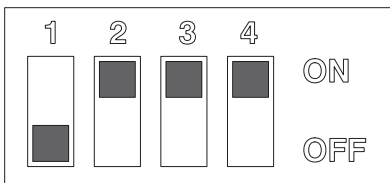

Figure 4-9. Dip-Switch Settings for the Hayes Modem.
6. Set the dip switches, as shown in Figure 4-9.